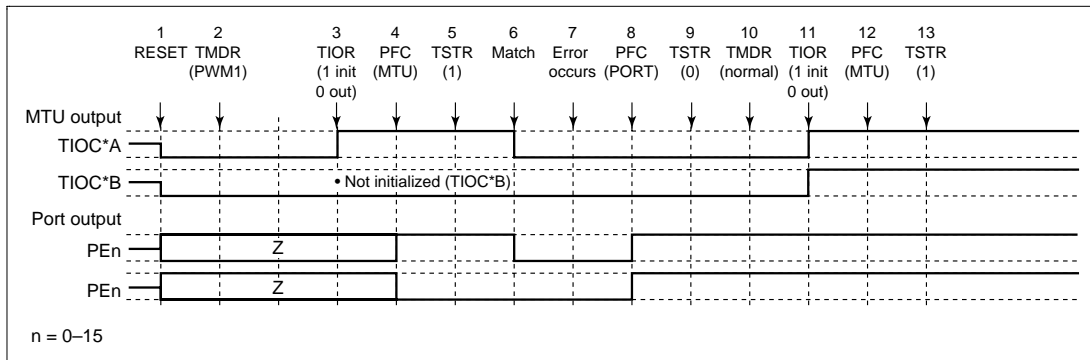

Figure 10.65 Error Occurrence in PWM Mode 1, Recovery in Normal Mode
(5) Operation when Error Occurs during PWM Mode 1 Operation, and Operation is Restarted in Normal Mode: Figure 10.65 shows an explanatory diagram of the case where an error occurs in PWM mode 1 and operation is restarted in normal mode after re-setting.
1 to 9 are the same as in figure 10.65.